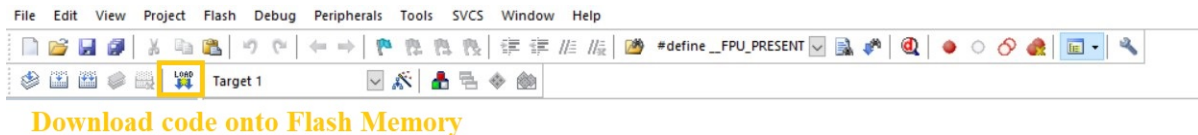

Figure 1.21: Load the code into Flash Memory
- Click on *Load* to download code to the microcontroller's Flash Memory (Figure 1.21) Microcontroller will start executing the code loaded onto it.